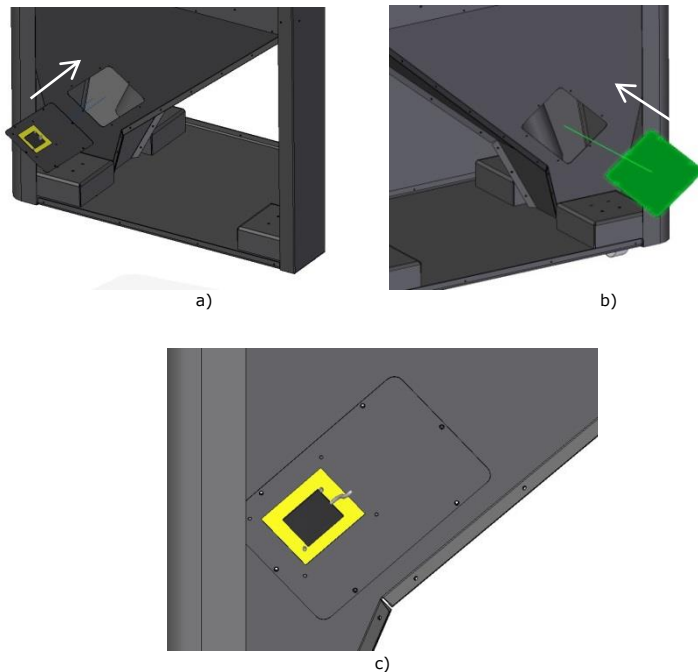

Figure 25 – Installing the pellet level sensor on the storage unit (storage unit on the left side of the boiler)
- Finally, you can mount the two mounting plates at the bottom of the storage unit, putting the plate with the level sensor on the right side and the plate without level sensor on the left side. The level sensor must be assembled as shown in Figure 25-c.